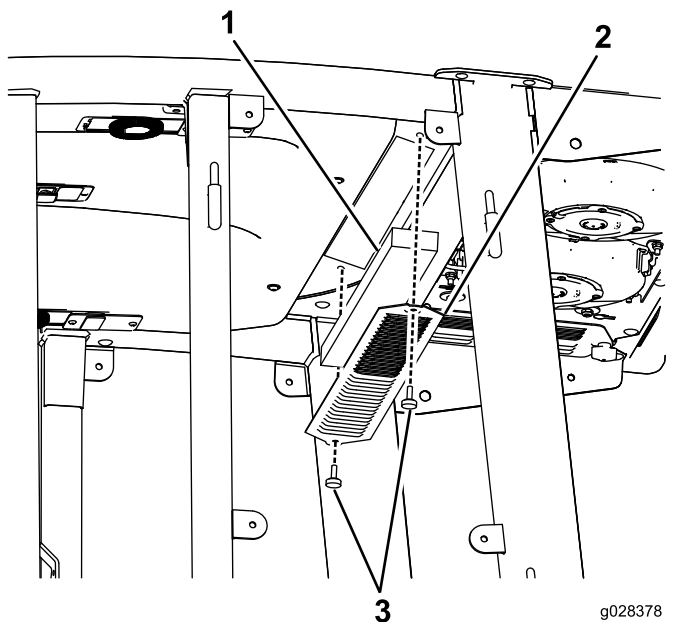
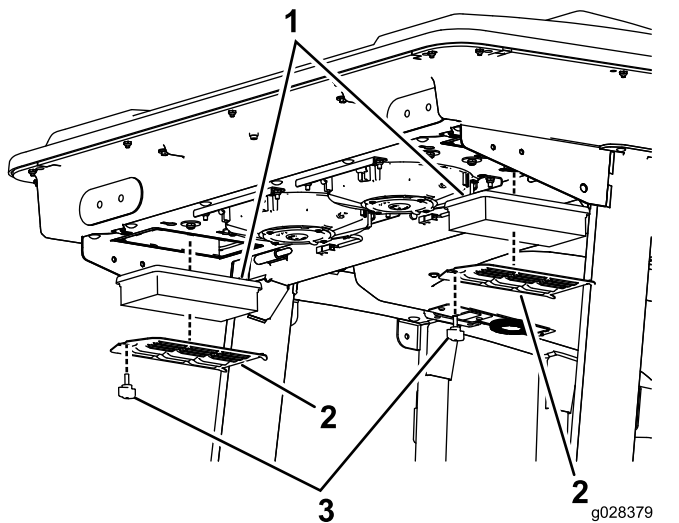
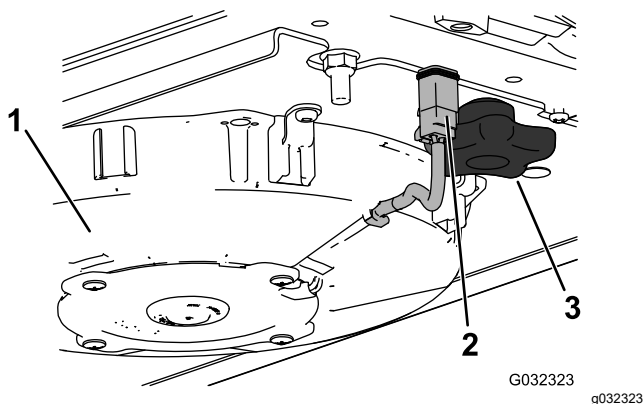
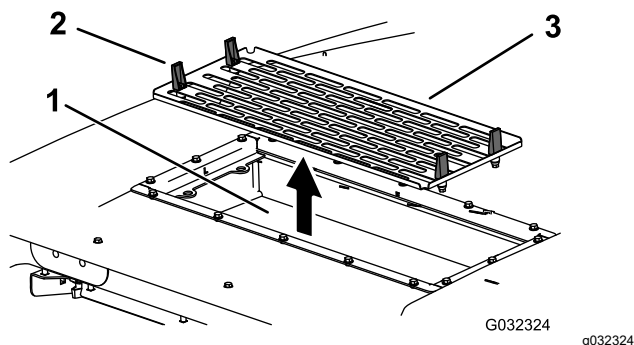

Figure 114
Figure 115
Figure 117
Figure 118
1. Remove the screws and grates from both the in-cab and rear cab air filters (Figure 114 and Figure 115).
4. Remove the air filters (see Figure 115).
6. Install the air filters, screen, and fan assembly (Figure 115, Figure 117, and Figure 118).
7. Connect the wire for each fan (Figure 117).